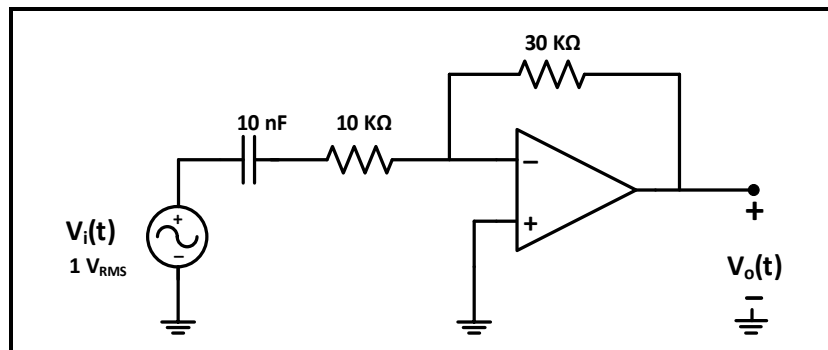

Figure 10.7: First Order Active High-Pass Filter
1. Connect the circuit of Figure 10.7, with a sinusoidal input voltage at $1 V_{RMS}$, use decade box for $R = 30 K\Omega$.
2. Repeat the same steps in part A for the circuit of figure 10.7 but change frequency according to Table 10.3 **staying in the range (30 Hz-10 kHz)**, and record results in the same table.